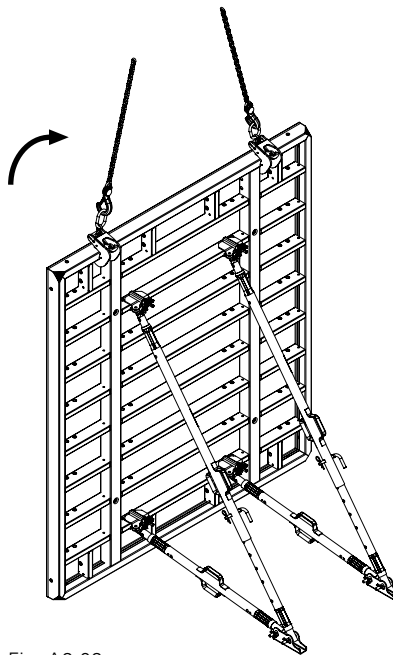

Fig. A2.02
5. Transport panel to place of operation by crane. (Fig. A2.02)